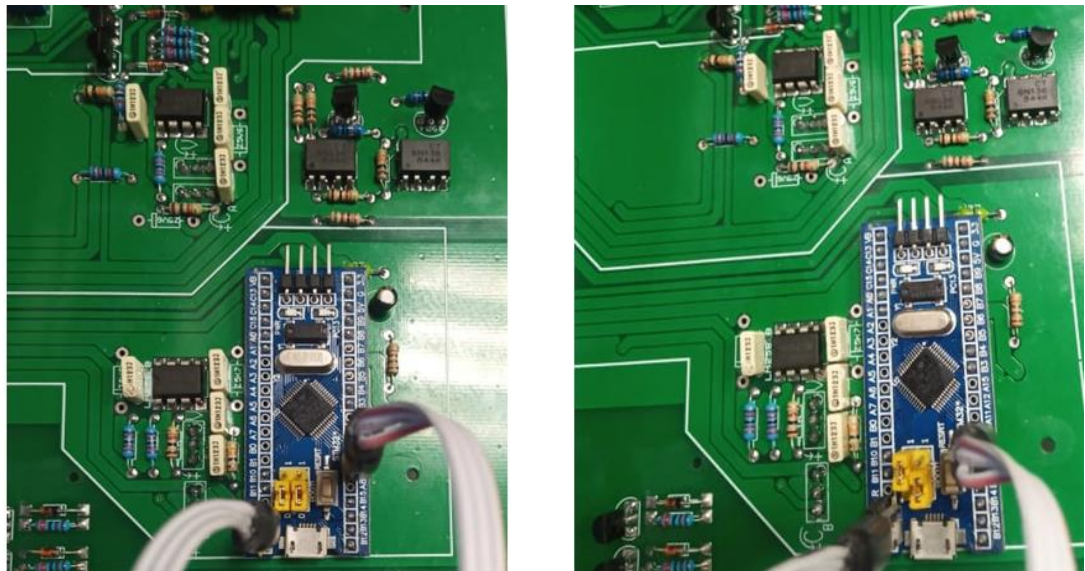

Figure 3: Position of the upper jumper pad on STM32 (a) after flash firmware (b) during flash firmware of PhysWatt channel
5. Place the jumper pad on the jumper pins close to point 1 on STM32, as shown in **Figure 3 (a)**.
Note: After performing Flash firmware, make sure to place the jumper pad back at its previous position (close to point 0), as demonstrated in **Figure 3 (b)**. Otherwise, PhysWatt will be inoperative for further processes and PhysLogger Desktop App will not respond.